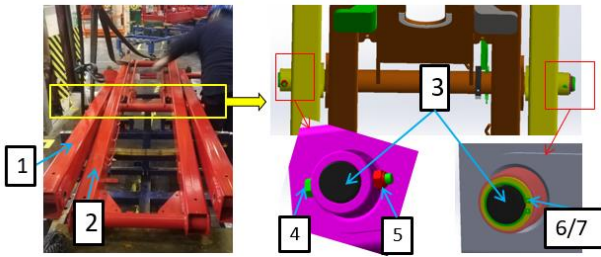

Fig. 4.72 Installation of first layer fork
- As shown in Fig. 4.72, place parts 1, 2 to the fork part and install the trolley, and pay attention to the placement direction;